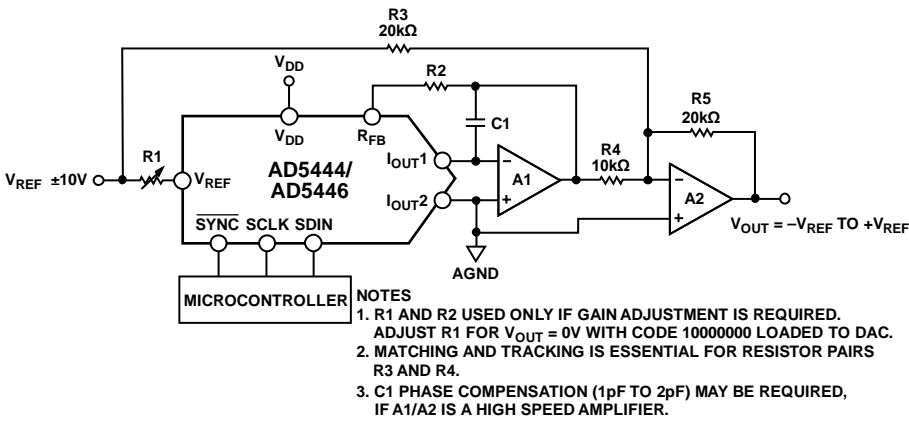

Figure 39. Bipolar Operation (4-Quadrant Multiplication)
In some applications, it may be necessary to generate a full 4-quadrant multiplying operation, or a bipolar output swing. This can easily be accomplished by using another external amplifier and some external resistors, as shown in Figure 39. In this circuit, the second amplifier (A2) provides a gain of 2. Biasing the external amplifier with an offset from the reference voltage results in a full 4-quadrant multiplying operation. The transfer function of this circuit shows that both negative and positive output voltages are created as the input data (D) is incremented from code zero ($V_{OUT} = -V_{REF}$) to midscale ($V_{OUT} = 0\text{ V}$) to full scale ($V_{OUT} = +V_{REF}$)
An optional compensation capacitor (C1) can be added in parallel with R_{FB} for stability, as shown in Figure 38 and Figure 39. Too small a value for C1 can produce ringing at the output, while too large a value can adversely affect the settling time. C1 should be found empirically, but 1 pF to 2 pF is generally adequate for the compensation.